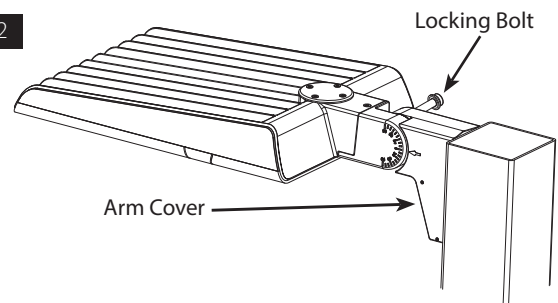

Fig: 3
4. The graduation of the **Adjustable Arm Cover Plate** can be used for guidelines to adjust the fixture angle (*Fig. 3 and 4*). Maximum tilt is  $\pm 60^\circ$ .